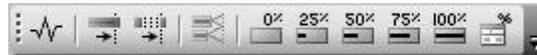

Figure 5
- A toolbar should now appear similar to Figure 5. (Hover your mouse over each icon to see what each one represents).